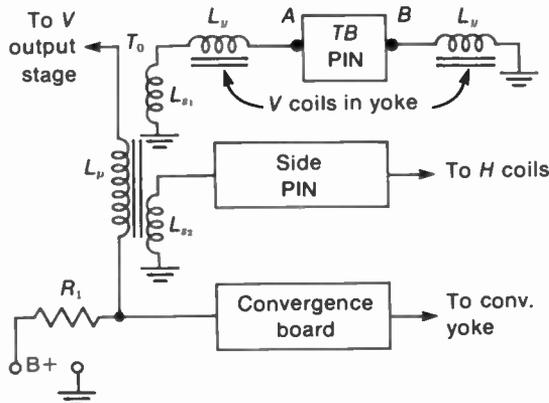

FIGURE 21-7 VERTICAL OUTPUT TRANSFORMER WITH CONNECTIONS OF PINCUSHION (PIN) CORRECTION CIRCUITS FOR COLOR PICTURE TUBE. TB IS TOP AND BOTTOM.
In Fig. 21-7, note that the pincushion correction circuits for the top and bottom (TB) of the raster are directly in series with the two vertical deflection coils in the yoke. This connection means that troubles in the TB pincushion circuits can affect the vertical scanning. To localize this problem, the two connections at points A and B can be shorted temporarily to check the vertical scanning without the TB pincushion circuits.